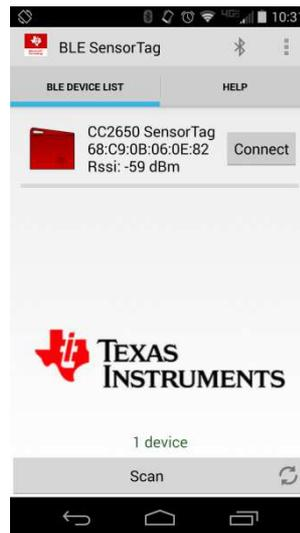

Figure 8: Android application scan interface
- After installing the application and running it, click on scan after powering on the SensorTag as shown in Figure 8: